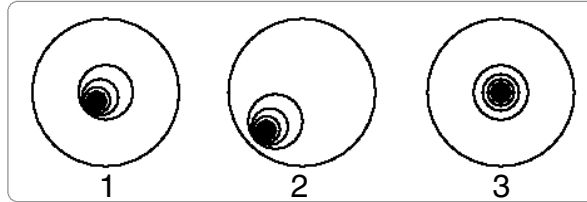

Fig. 33a: Defocused star images. Misaligned (1, 2), Aligned (3).
- b. While looking at the defocused star image, notice which direction the darker shadow is offset in the ring of light or notice which part of the ring is the thinnest (**Fig. 33a, 1**). Place your index finger in front of the telescope so that it touches one of the collimation set screws. You will see the shadow of your finger in the ring of light. Move your finger around the edge of the black plastic secondary mirror support until you see the shadow of the finger crossing the thinnest part of the ring of light. At this point, look at the front of the telescope where your finger is aiming. It will either be pointing directly at a set screw, or it will be between two set screws aiming at the set screw on the far side of the black plastic secondary mirror support. This is the set screw that you will adjust.
- c. Using the AutoStar II's Arrow keys at the slowest slew speed, move the defocused image to the edge of the eyepiece field of view (**Fig. 33a, 2**), in the same direction as the darker shadow is offset in the ring of light.
- f. When you bring the image to center (**Fig. 33a, 3**), carefully examine the evenness of the ring of light (concentricity). If you find that the dark center is still off in the same direction, continue to make the adjustment in the original turning direction. If it is now off in the opposite direction, you have turned too far and you need to turn in the opposite direction. Always double check the image in the center of the field of the eyepiece.